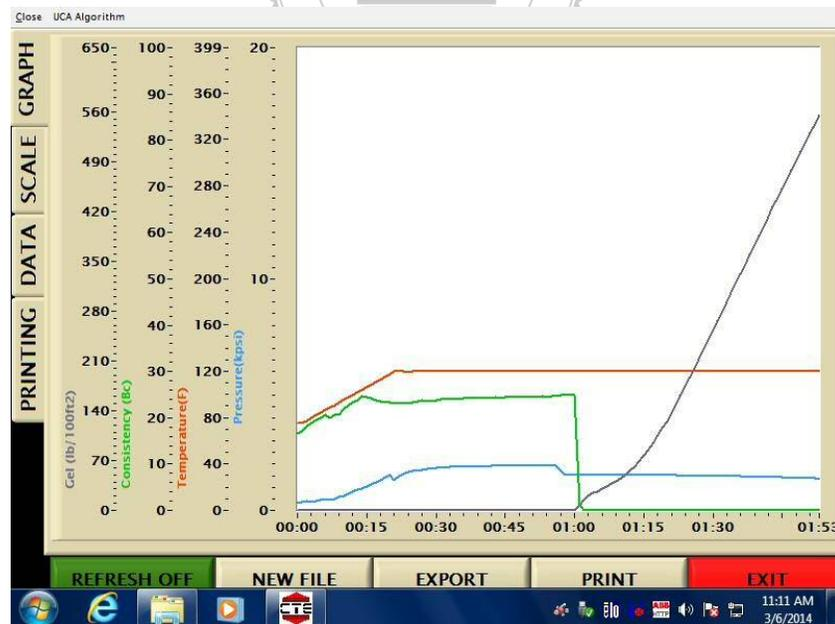

Figure 24
The left y-axis displays Gel (if option is installed on the instrument), Consistency, Temperature, and Pressure. Each Curve is given a specific scale, color and units. The x-axis is given in minutes. As shown in figure 24.
4. Check to make sure the two brass contact strips (02-0051) are exactly located like in figure 24. They should be placed towards the ends of the resistor. The ground wire 02-0066 should make contact with ground contact spring 02-0059-2 and fed through the small hole and into the body making contact with the spring retainer 02-0053. The potentiometer slider (02-0077) should rest right at the beginning of the resistor winding. Make adjustments to the pointer location using the triangular patterned screws on the underside of the pot mech. The stop arm (02-0058) should rest against the only cap screw on the underside of the potentiometer.